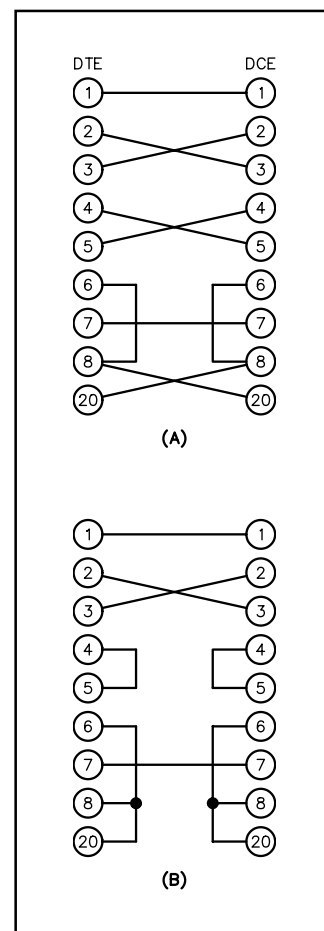

Fig 22.24—EIA-232-D null modem serial connection.
Some equipment does not fall completely in the DTE or DCE category. Some serial printers, for example, act as DCE while others act as DTE. Whenever a DTE/DTE or DCE/DCE connection is needed a special connection, known as a *null modem* connection, must be made. An example might be connecting two computers together so they can transmit data back and forth. A null modem connection simply crosses the signal and handshaking lines. **Fig 22.24** shows a normal null modem connection (A) and one for equipment that ignores handshaking (B).